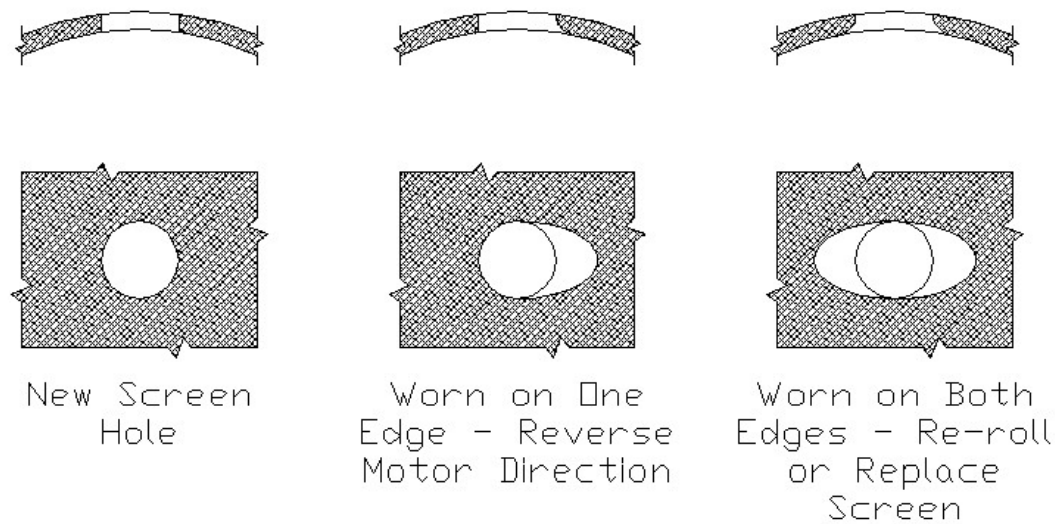

Figure 5-1: Signs of Screen Wear
- Worn edges of the screen holes (rounded) **See Figure 5-1**
- Oval shape screen holes **See Figure 5-1**